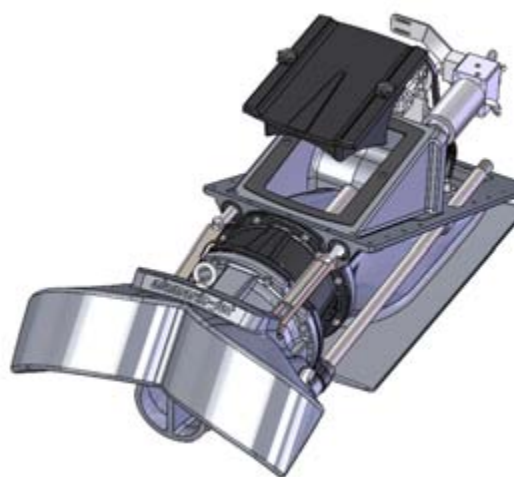

Figure 34. Opened inspection hatch
1. Open the inspection hatch (figure 34).